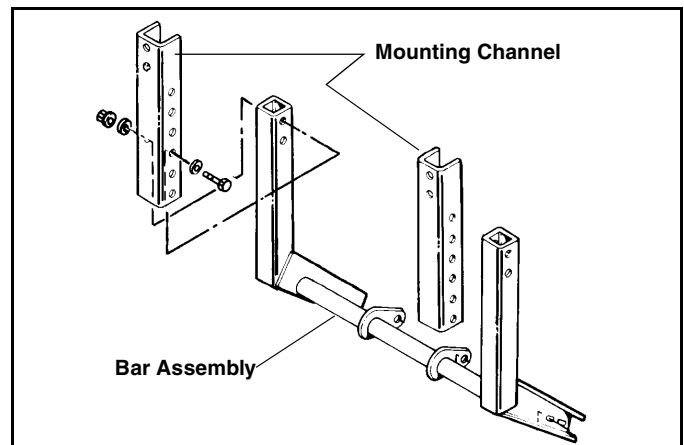

Figure 6
6. Attach Mounting Channels (#19) to Lower Bar Assembly using (4) 3/8" x 3" Cap Screws (#23), (8) Washers (#25) and Nylock Nuts (#24) provided. (See Figure 6)